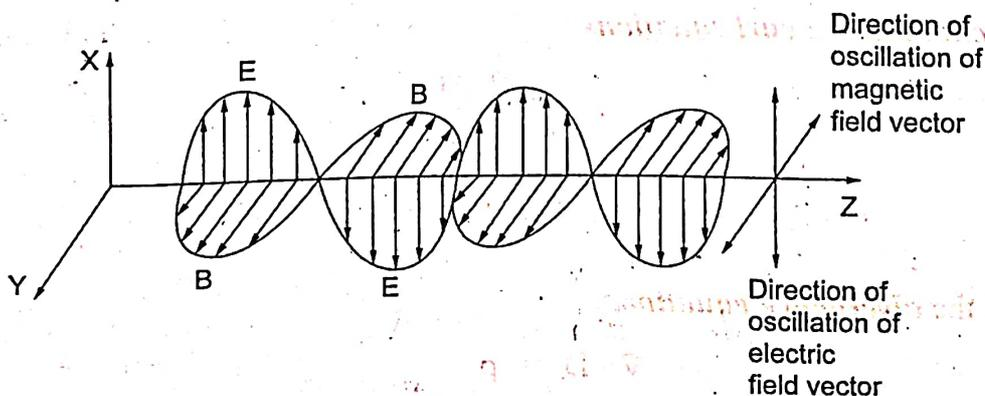

Fig 2.1 EM wave propagation in the z-direction
- ❖ These two fields are orthogonal to each other and moves with the speed of light. The electric and magnetic field distribution of a train of plane of linearly polarized electromagnetic wave is shown in Fig 2.1.